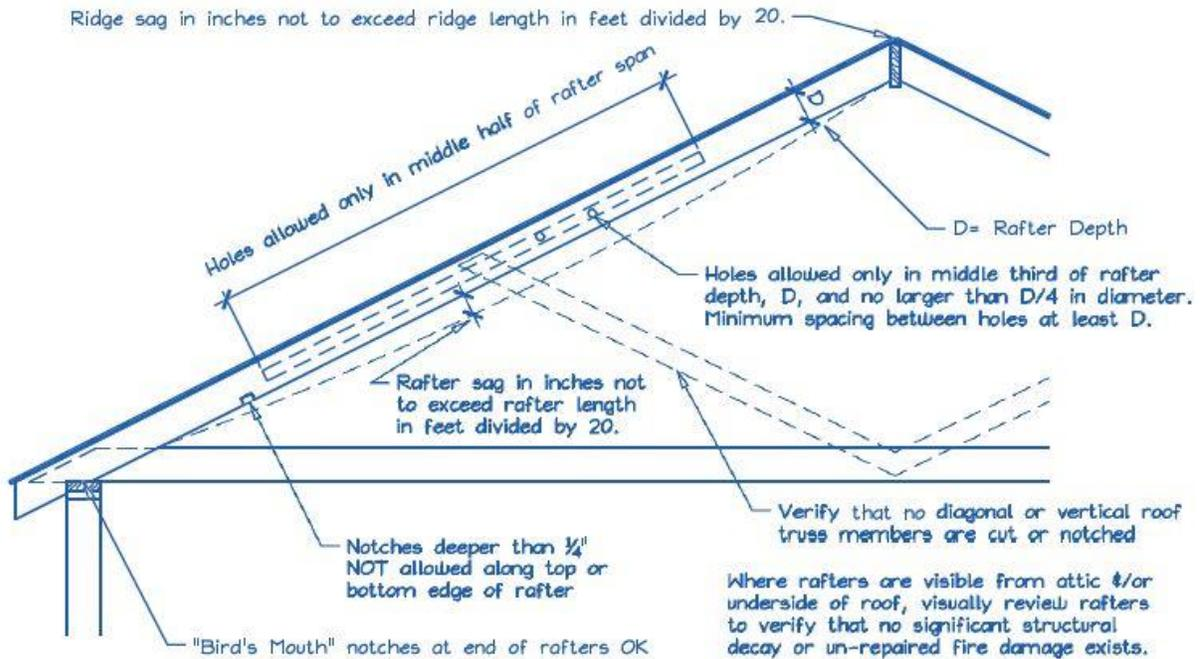

Figure 1 Roof Visual Structural Review (Contractor's Site Audit) of Existing Conditions.
- 2) Does the roof structure appear structurally sound, without signs of alterations or significant structural deterioration or sagging, as illustrated in Figure 1? Y N